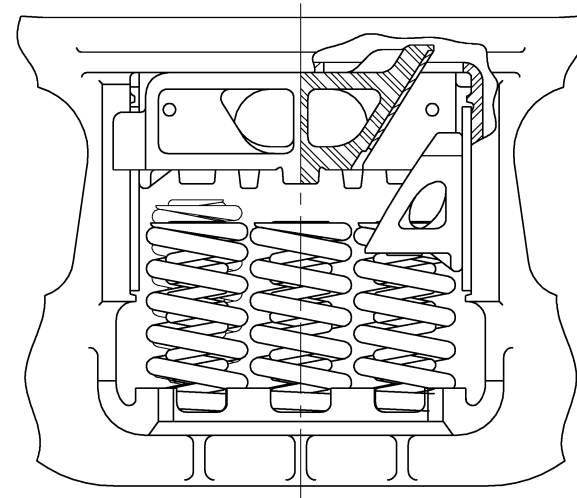

Figure 3
3. Carefully remove the side spring(s), as the friction wedge will drop out of the bolster pocket as shown (see figure 3). Split wedge can drop out as two separate halves.